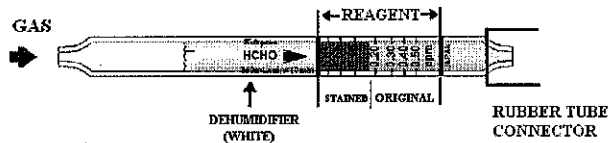

Fig.1
- ② Connect the detector tube into the rubber tube connector of the Model S-20 series air sampler as shown in Fig. 1 (Arrow mark shall point to the sampler.), and fix it into the detector tube holder.
- ③ Turn ON power of the air sampler.
- ④ In accordance with instruction manual of each air sampler, preset the TIMER at 10 minutes and adjust the flow rate at 350mL/min.
- ⑤ After completion of sampling (10 minutes), remove the detector tube from the tube holder and read the scale at the maximum point of a stained layer.